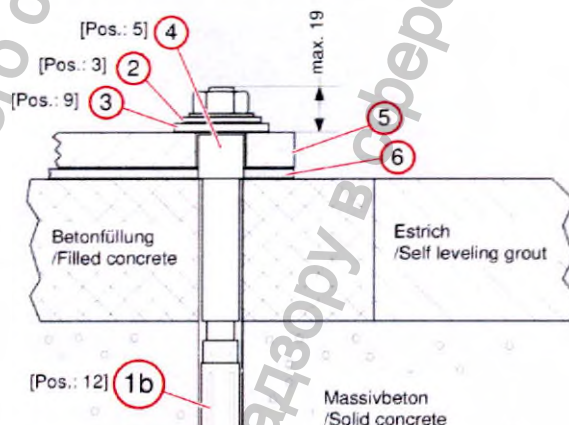

Fig. 23: Floor stand, inserting the heavy-duty expansion bolts
- Insert the heavy-duty anchor bolts Fig. 23; torque 80 Nm for Hilti HSL-3 and Hilti HSL-3-G; 60 Nm for Hilti HSL-4 and Hilti HSL-4-G.
To prevent the cover panel for the mounting plate from sitting on the threaded rods, cut off any excess higher than 19 mm Fig. 23.